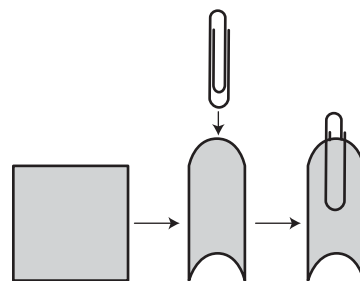

Figure 1.
5. Bend the zinc into a half circle and slide a small paper clip down the center (see Figure 1).